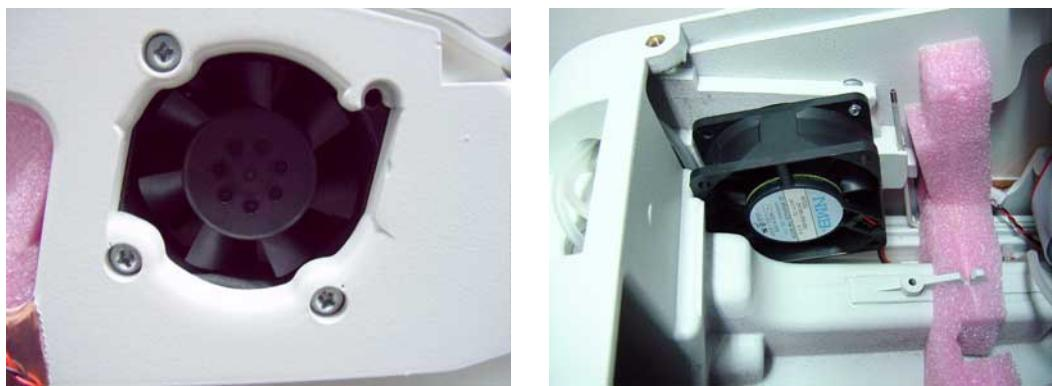

Fig. 3-51 Fan
4. Open the mounting screws of the fan and take it out (see Fig. 3-51).